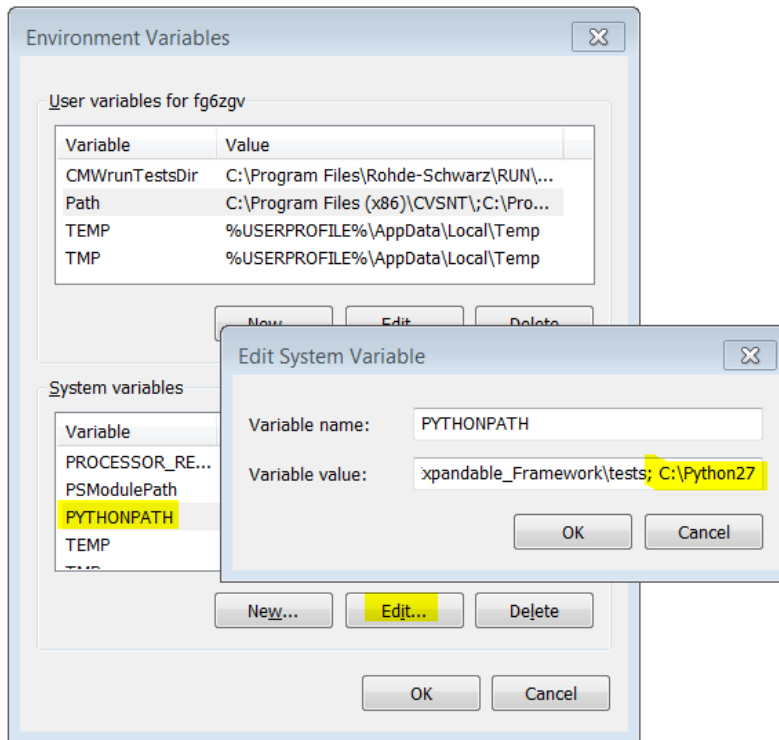

Figure 5: Adding C:\Python27 to PYTHONPATH.
- d. Make sure **C:\Python27** is added to the computer's **PYTHONPATH** environment variable. See Figure 5.